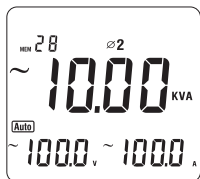

Figure 15
- Then press **SELECT** again to choose the second phase  $\varnothing 2$ , see figure 15.